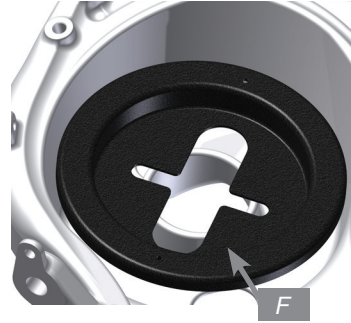

fig. 14
- Apply the second roll plate (F) within the lower control arm spring pocket (fig. 14).